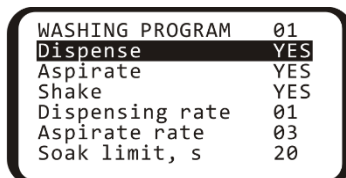

Figure 8. Program parameters
5.6.2 In figure 8, unit is set to program 01 (top right corner) and is in the editing mode (Dispense ... YES is selected).